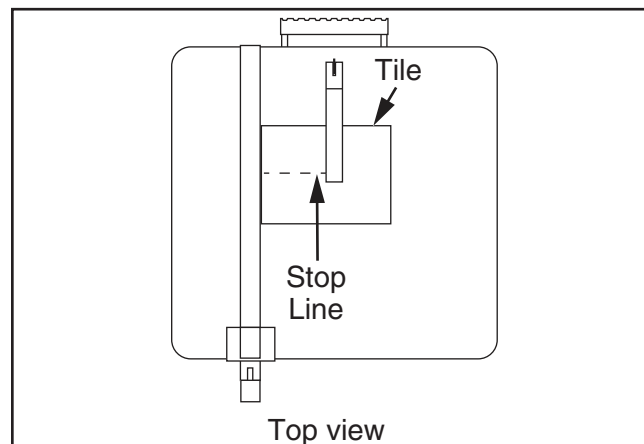

Figure 34. First cut complete.
8. Ensure blade is wet, then push tile through cut until you contact second line drawn in **Step 2** (see **Figure 34**).